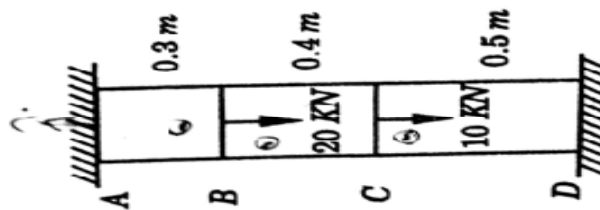

Figure 4
6. A 1.2 m long bar of 280 mm^2 cross-sectional area is rigidly fixed between two supports in vertical position. Forces of magnitude 20 kN and 10 kN are applied on the member as shown in Figure 4. Evaluate the stresses induced in different portions of the member.